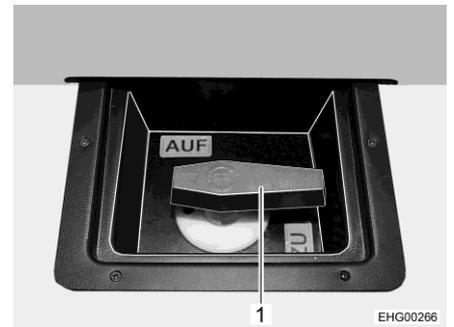

Fig. 133 Operating lever (waste water tank)
The drain cock for waste water is operated via an operating lever (Fig. 133,1). The operating lever (Fig. 133,1) for waste water disposal is located under a cover in the rear. The drain pipe with a connection for a waste water hose is located under the vehicle on the right-hand side.
- Open the drain cock. To do this, turn the operating lever (Fig. 133,1) of the drain cock to the "AUF" (open) position. The waste water will run out.
- Close the drain cock again once all of the waste water has run out. To do this, turn the operating lever (Fig. 133,1) of the drain cock to the "ZU" (closed) position.